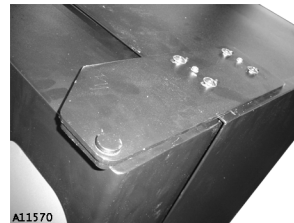

Figure 4b. Top Hinge Plate
3. **Remove the door** - While holding the door in place to prevent bending or damage to the bottom pivot, remove the two (2) small locating screws and four (4) large bolts and nuts holding the Top Hinge Plate to the cabinet. (Figure 4b). Save the mounting hardware for step 7. Lift the door to remove it from the bottom hinge.
7. **Reattach the door** - Attach the bottom end of the door to the Door Hinge. Hold the door in place while attaching the Top Hinge Plate to the cabinet using the hardware fasteners saved from step 3 (Figure 4b). First, install the two (2) small screws to locate the Top Hinge Plate to the correct location and then add the four bolts and nuts.